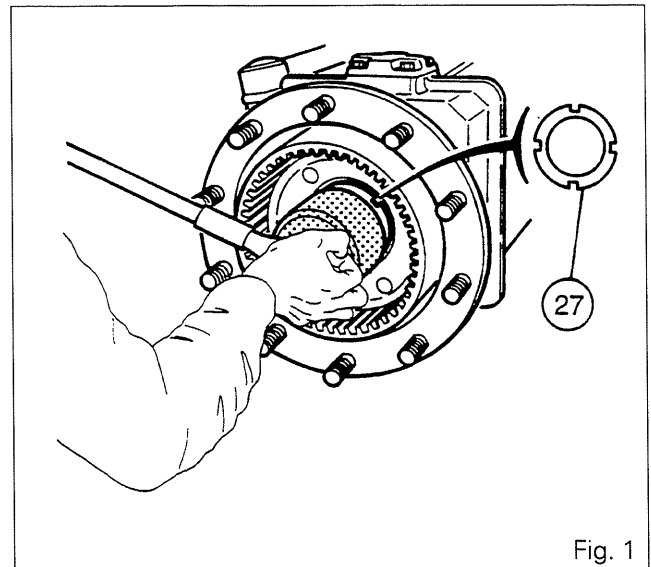
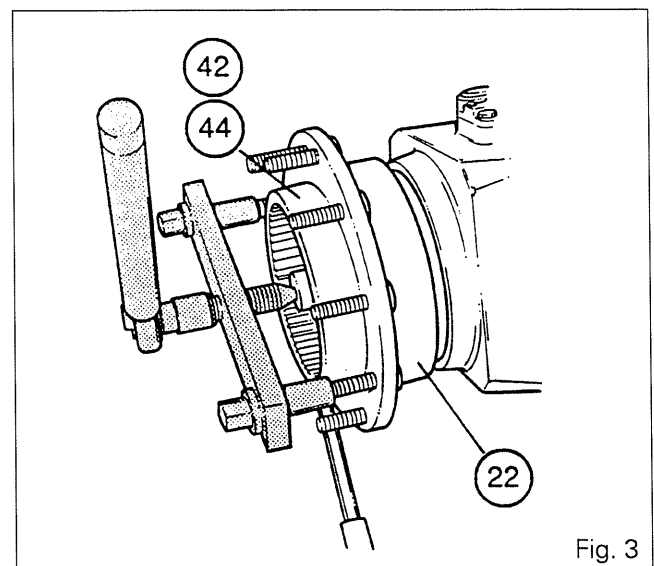

Fig. 1
Fig. 3
2. The 4 WD clutch being engaged, lift the two wheels to allow the wheel hub (22) to turn freely. Position props.
5. Remove bolts (33).
6. Separate and remove the planetary carrier with the thrust washer (30).
7. Remove the circlip (29) and the sun gear (28).
8. To avoid damaging the swivel housing (47) thread, it is recommended to unlock and unscrew the nut (27) using the socket 3378 028 M1 (Fig.1). Sling the wheel hub (22). Pull out the wheel hub and the ring gear carrier (42) then the ring gear (44) using the puller 3378 038 M1 (Fig.3) and the sleeve used for this type of front axle
**Note:** Coat puller cone and screw with graphite grease. Remove the rings (24) and (26) from the ring gear carrier (42). Separate the ring gear (44) from the carrier.
33. To avoid damaging the swivel housing **(47)** thread, it is recommended to unlock and unscrew the nut **(27)** using the socket 3378 028 M1 (Fig.1).
34. Sling the wheel hub **(22)**. Remove the hub and the ring gear carrier **(42)** then the ring gear **(44)** using puller 3378 038 M1 (Fig.3) and the sleeve used for this type of front axle.